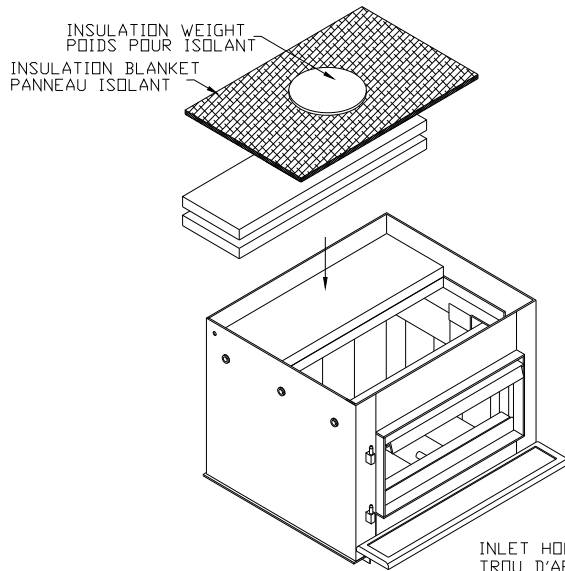

Figure 3.4b
- 3- Put the vermiculite boards on top of the rear secondary air tube. The vermiculite boards must be placed next to each other (not stacked). Put the insulation blanket on top of the vermiculite boards as shown in figure 3.4b. Place the insulation weight at the top back center of the insulation blanket lined up with the flue outlet.
- 4- Install the second side baffle support (B) on the other side of the firebox.